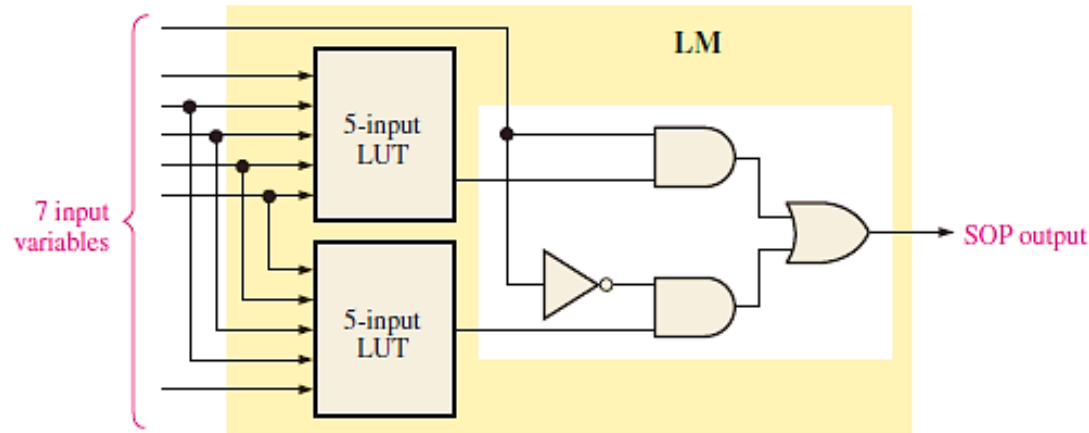

FIGURE 15 Expansion of a logic module (LM) to produce a 7-variable SOP function in the extended LUT mode.
- The *extended LUT mode* allows expansion to a 7-variable function, as illustrated in Figure 15. The multiplexer formed by the AND-OR circuit with a complemented input is part of the dedicated logic in a logic module.